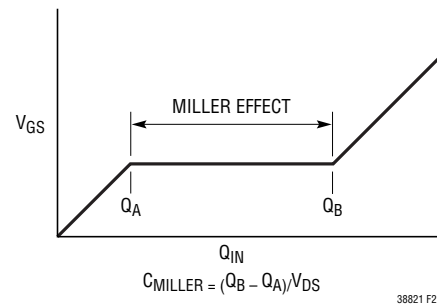

Figure 21. Typical MOSFET Gate Charge Curve
4. Gate drive current is equal to the sum of the top and bottom MOSFET gate charges multiplied by the frequency of operation. These charges are based on the gate voltage applied by the FET driver and can be determined from manufacturer curves like the one shown in Figure 21. Many driver ICs employ asymmetrical gate voltages for top and bottom FETs.
For maximum efficiency, $R_{DS(ON)}$ and Q_G should be minimized. Low $R_{DS(ON)}$ minimizes conduction losses and low Q_G minimizes switching and transition losses. MOSFET gate charge can be taken from the typical gate charge curve included on most data sheets (Figure 21).
C_{MILLER} is the most important selection criteria for determining the transition loss term in the top MOSFET but is not directly specified on MOSFET data sheets. C_{MILLER} is equal to the increase in gate charge along the horizontal axis of Figure 21 while the curve is approximately flat, divided by the specified change in V_{DS} . This result is then multiplied by the ratio of the actual application V_{DS} to the V_{DS} specified on the gate charge curve. When the controller is operating in continuous mode the duty cycles for the top and bottom MOSFETs are given by: